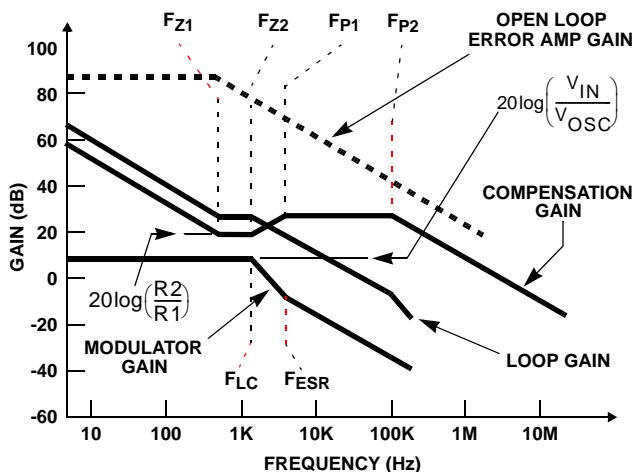

FIGURE 7. ASYMPTOTIC BODE PLOT OF CONVERTER GAIN
Figure 7 shows an asymptotic plot of the DC-DC converter's gain vs. frequency. The actual modulator gain has a high gain peak dependent on the quality factor (Q) of the output filter, which is not shown in Figure 7. Using the above